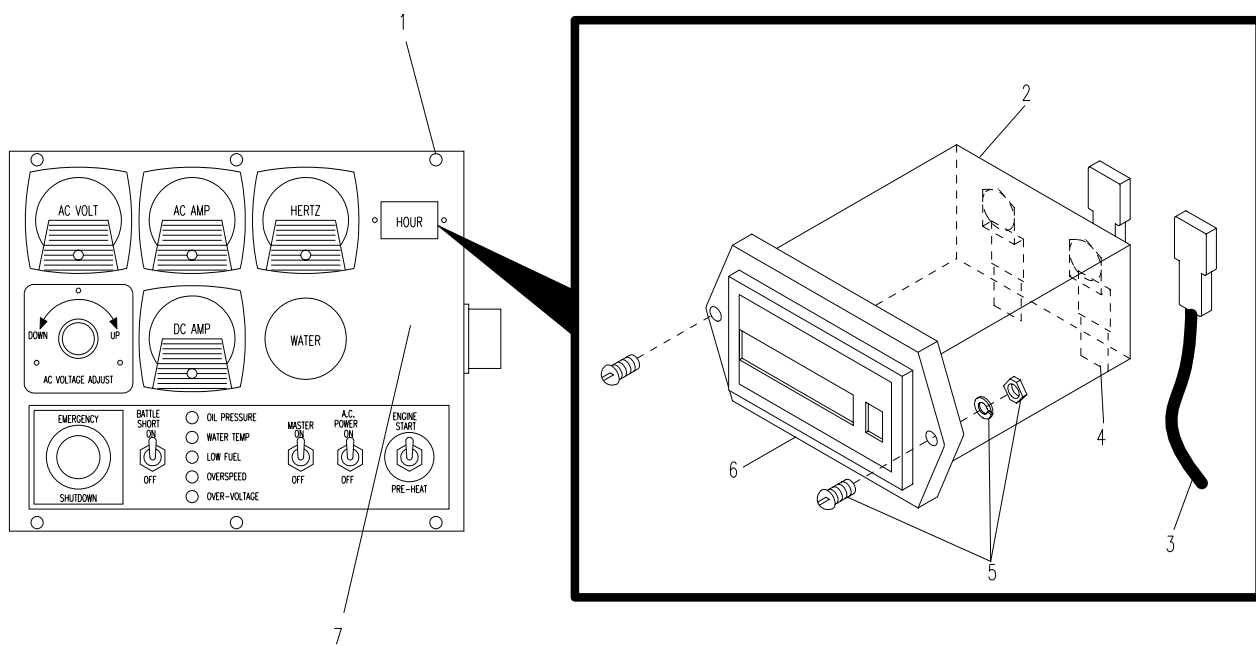

Figure 4-46. Hour Meter
- a. Remove ten screws (caged nuts (SICPS), machine screws (JTACS and WIN-T)) (1, Figure 4-46) securing APU control unit cover to chassis and remove cover.
- b. At rear of meter (2), identify and tag terminal leads (3).
- c. Disconnect terminal leads (3) from terminals (4) by gently pulling apart.
- d. Remove two screws and nuts (two screws, lock washers and nuts (JTACS and WIN-T)) (two screws, lock washers and nuts (SICPS)) (5) securing hour meter (6) to APU control unit front panel.
- e. Carefully pull meter (6) through front of APU control front panel.
- f. Position meter (6) in APU control unit front panel (7) mounting hole.
- g. Secure meter (6) to APU control unit front panel (7) with two screws and nuts (5).
- h. Secure terminal leads (3) on terminals (4) and remove tags.
- i. Secure APU control unit cover to chassis with ten screws (caged nuts (SICPS), machine screws (JTACS and WIN-T)) (1).